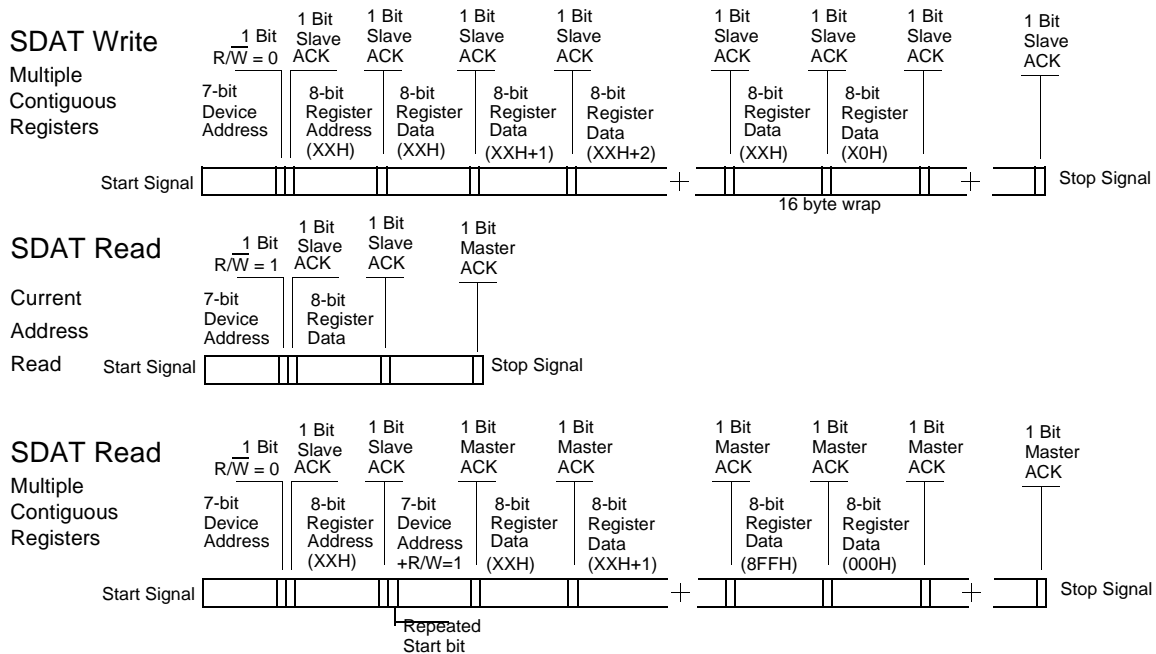

Figure 4. Data Frame Architecture
Start Bit; 7-bit Device Address (DA);  $\overline{R/W}$  Bit; Slave Clock Acknowledge (ACK); 8-bit Memory Address (MA); ACK; 8-bit Data; ACK; 8-bit Data in MA+1 if desired; ACK; 8-bit Data in MA+2; ACK; etc. until STOP Bit. The basic serial format is illustrated in *Figure 4*.